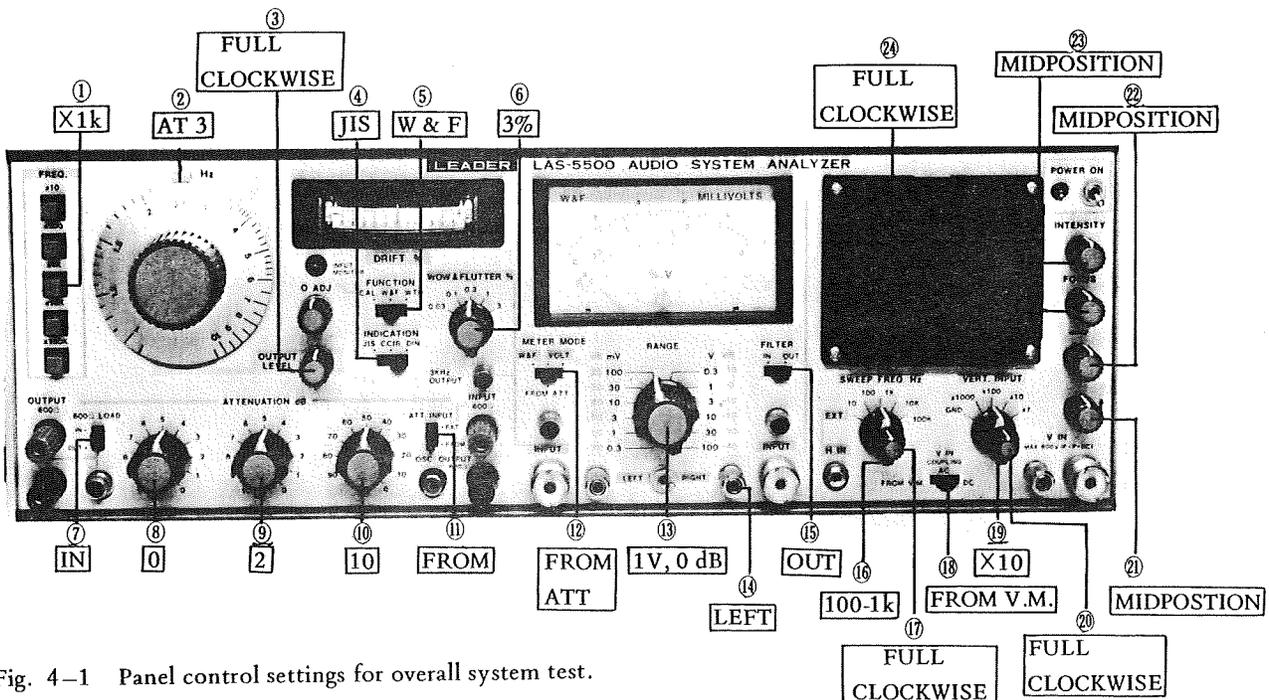

Fig. 4-1 Panel control settings for overall system test.
Number in (0) are used to indicate the switches, etc., with reference to Fig. 4-1.
Referring to Fig. 4-1, set the controls, etc., in the order as shown in the CHART.